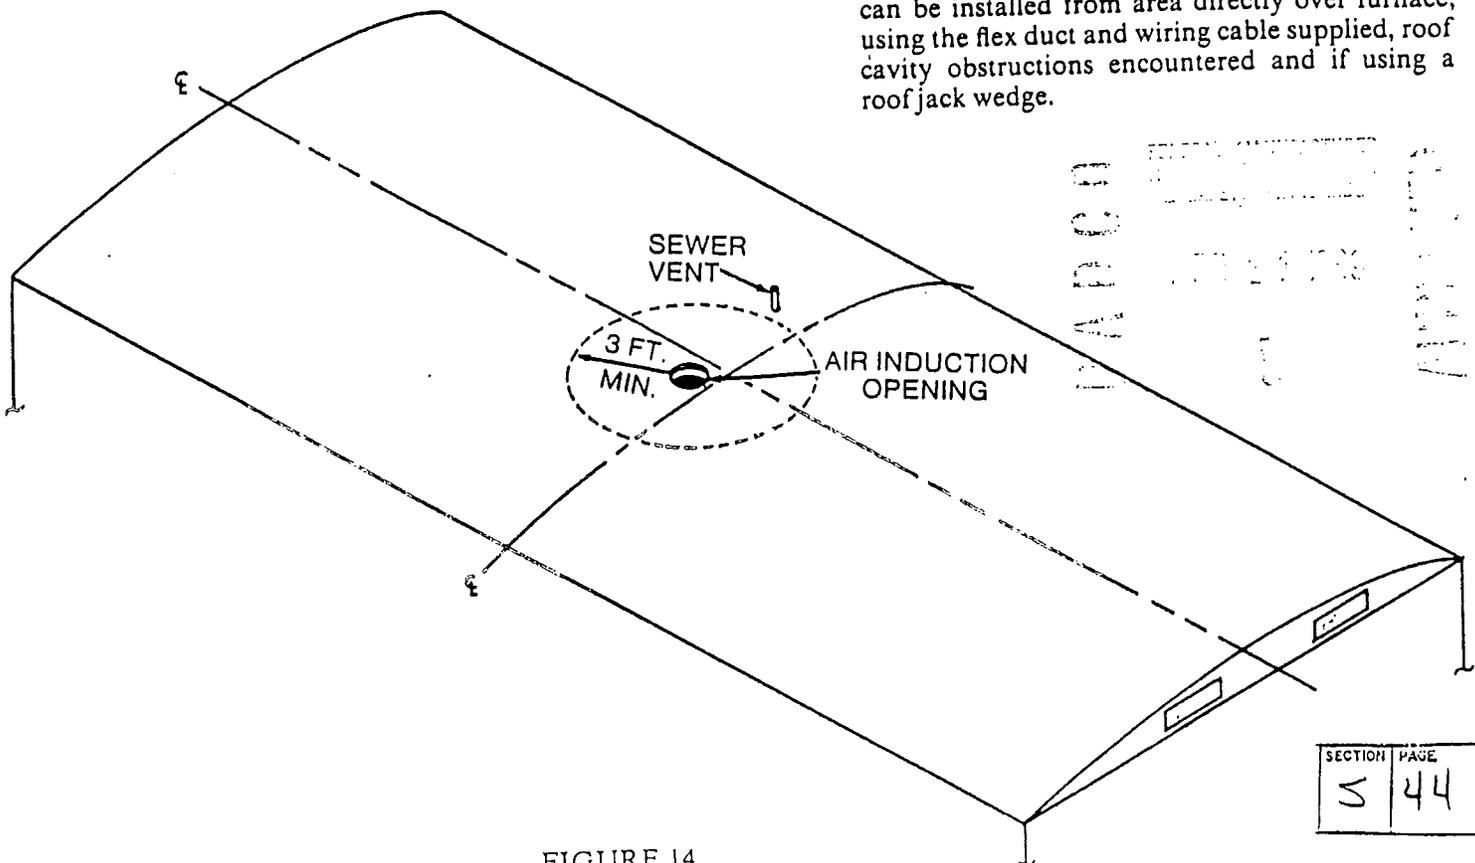

FIGURE 14
5. Mark the selected location and cut an 11 inch diameter hole through the roof and into the roof cavity. See figure 14.